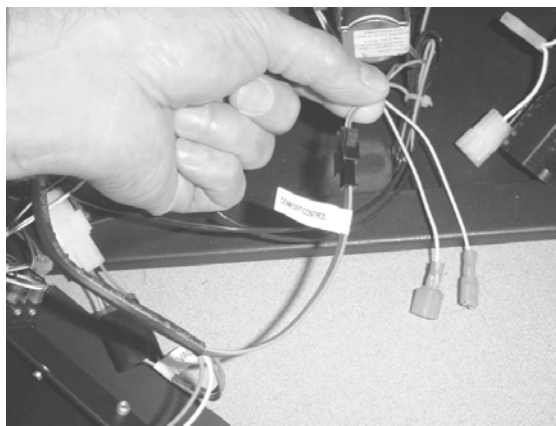

Figure 18
- 15 Attach the wiring harness to the comfort control valve connection (see Figure 18).